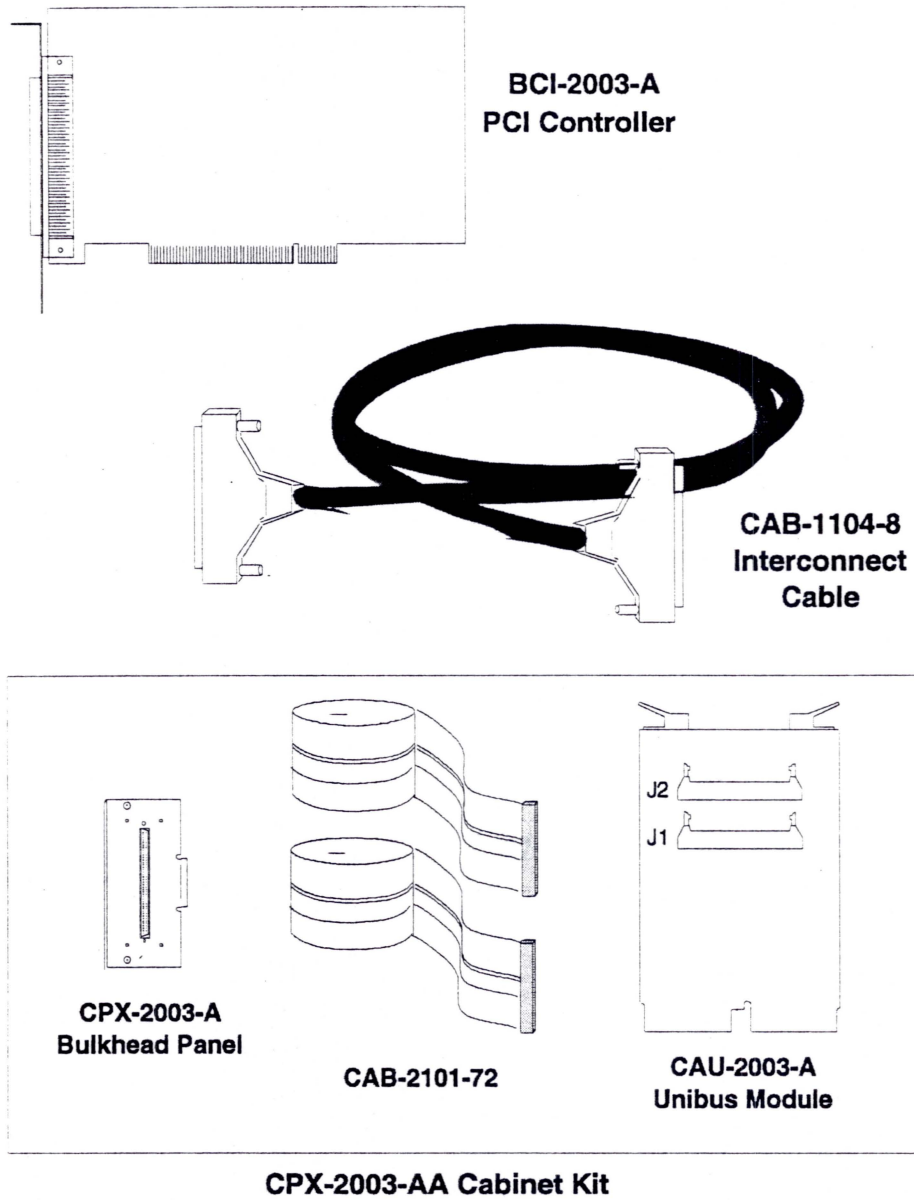

Figure 2-1: BCI-2003-AA Package
- The cabinet kit consists of a CAU-2003-A Unibus module, two 6-ft flat ribbon cables, and a CPX-2003-A bulkhead panel. The cabinet kit can be used when connecting to a Unibus chassis that utilizes bulkhead panels for FCC and emissions control. The CAU-2003 is a dual-width module and installs into a Unibus backplane slot 1, connectors A and B, replacing a Unibus cable or Unibus jumper module. The two 6-ft flat ribbon cables connect the CAU-2003-A module to the CPX-2003-A bulkhead panel. Figure 2-1 depicts the components of the BCI-2003-AA cabinet kit package.